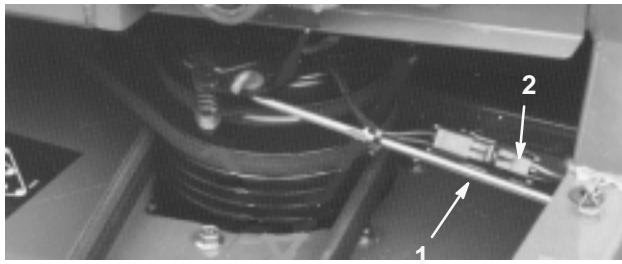

Figure 73
3. Remove hair pin cotter securing clutch rod to front of cutting deck and disconnect rod from deck. Unplug clutch wire from harness (Fig. 73).